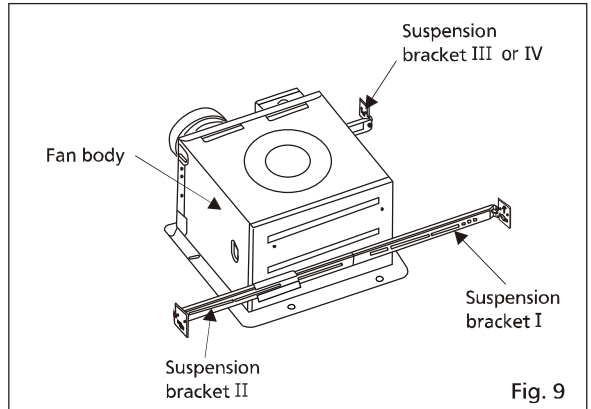

Fig. 9
2. Insert the suspension bracket I and II into the fan body and suspension bracket III or IV into the adaptor. (Select the suspension bracket connection holes as shown below) (Fig.9, Fig.10)